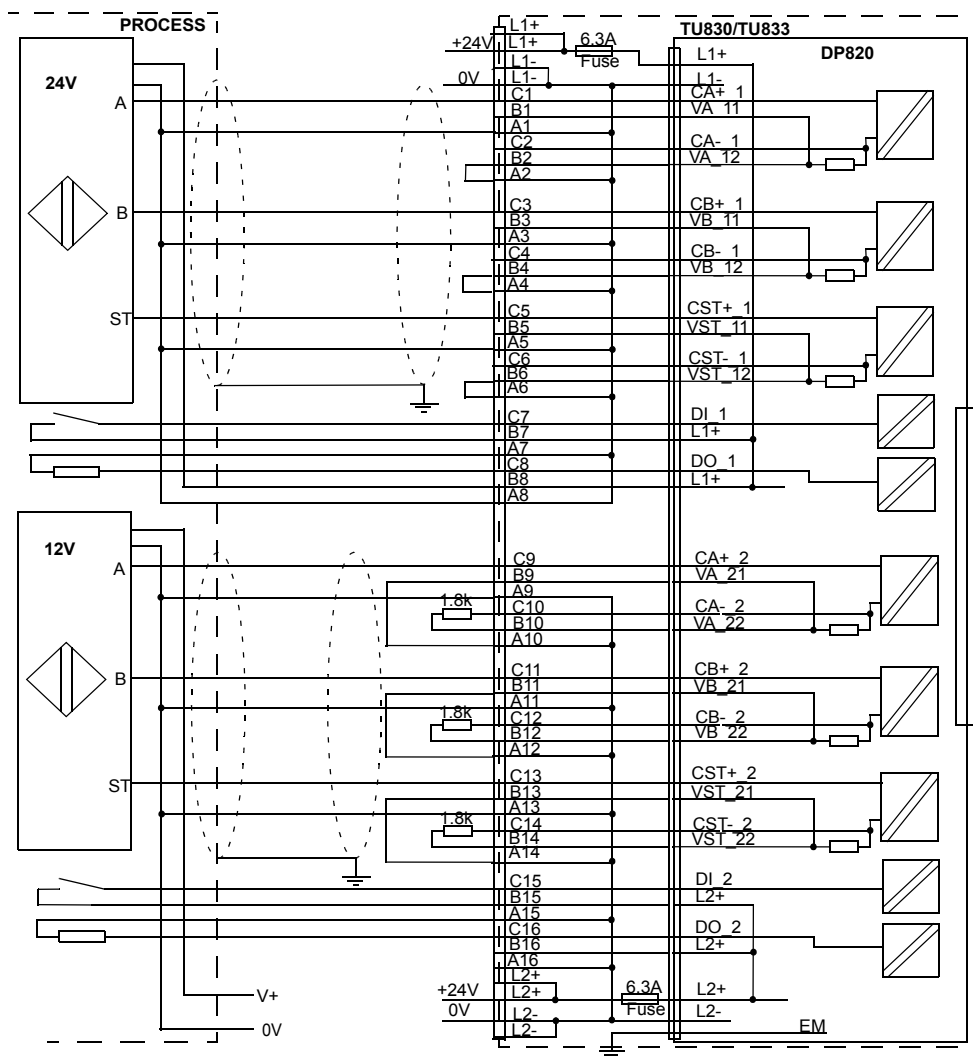

Figure 228. DP820 with TU830 MTU Process Connections and Transducer Connections
- (1) Load 20 mA at 5 V, 8 mA at 2.5 V
(2) With TU830 external resistor 1.8 k $\Omega$ , see Figure 228.
Figure 228 shows the process connections for DP820 when installed on a TU830 MTU, and with +24 V transducer connected to channel 1 and +12 V transducer to channel 2.